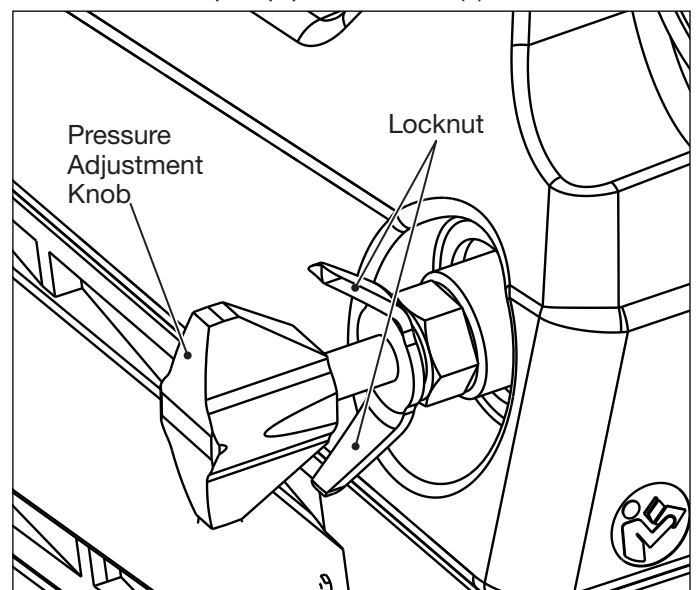

Figure 9: Relief Valve Pressure (torque) Adjustment
1. To prevent the pump from starting while hydraulic connections are being made, be sure that the pump power switch is turned off (O). Or, remove the battery from the pump (if installed).
2. Check the pump hydraulic pressure gauge. If any pressure is indicated, loosen the relief valve locknut and turn the pressure adjustment knob counter-clockwise until pressure is relieved and gauge indicates zero (0) psi/bar. Refer to Figure 9.
The pump contains a user-adjustable hydraulic pressure relief valve which allows the pump to be set to a specific target pressure corresponding to the desired target torque required for your application. See Figure 9.
NOTICE If battery is fully discharged, or if pressure relief function is not working, relieve trapped pressure manually by turning pump relief valve knob counter-clockwise until pressure is relieved. Refer to Figure 9.